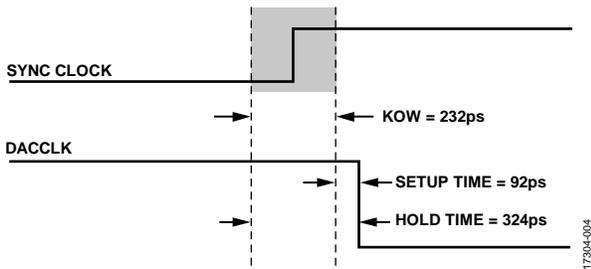

Figure 4. Timing Requirement Between DACCLK and Sync Clock
3. The relative phase between DACCLK and sync clock must not fall in the KOW, as shown in Figure 4.